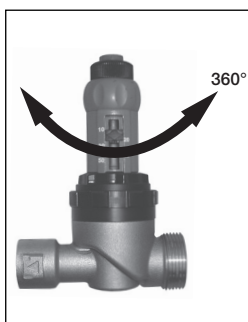

Figure 1
1. Install the valve in the direction indicated by the flow arrows on the body. The valve can be installed in any orientation. Rotate the set point indicator so that the pressure setting is always visible (figure 1).